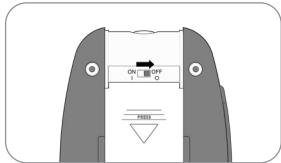

Fig. 1
1. Slide the power switch to the OFF position before inserting/changing batteries (Fig. 1).